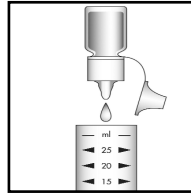

Figure 2
2. Add 10 drops of A-9001 Activator Solution (fig 2). Cap the sample cup and shake it to mix the contents well. Wait **4 minutes**.